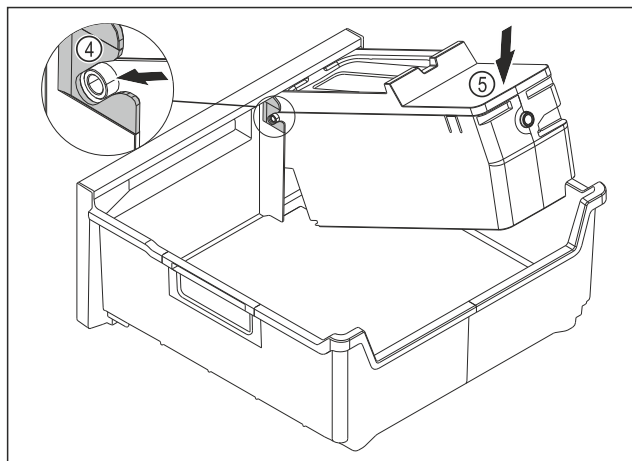

Fig. 78
- Installing the EasyTwist-Ice body: Push the axes for the EasyTwist-Ice body into the guides Fig. 78 (4).
- Press the EasyTwist-Ice body Fig. 78 (5) down at the back.